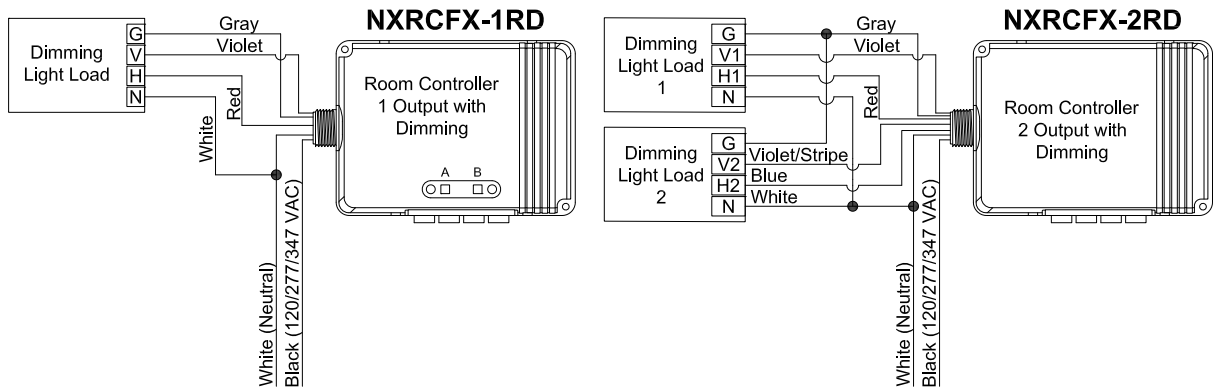

FIGURE 2: NXRCFX ROOM CONTROLLER WIRING DIAGRAM
3. Following the applicable wiring diagram provided in Figure 2, connect wires to line voltage feed, neutral, and corresponding loads.